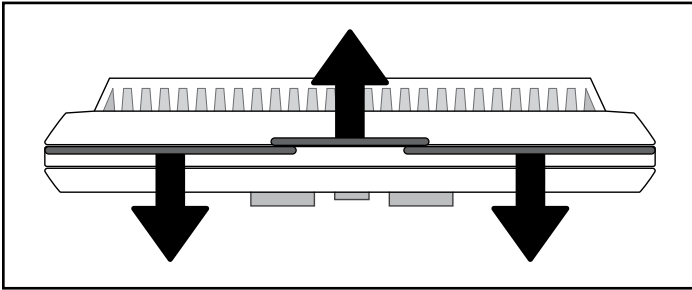

Figure 22.1
1. Separate the body of the thermostat from the mounting plate by gently pulling the two pieces apart (**Figure 22.1**).